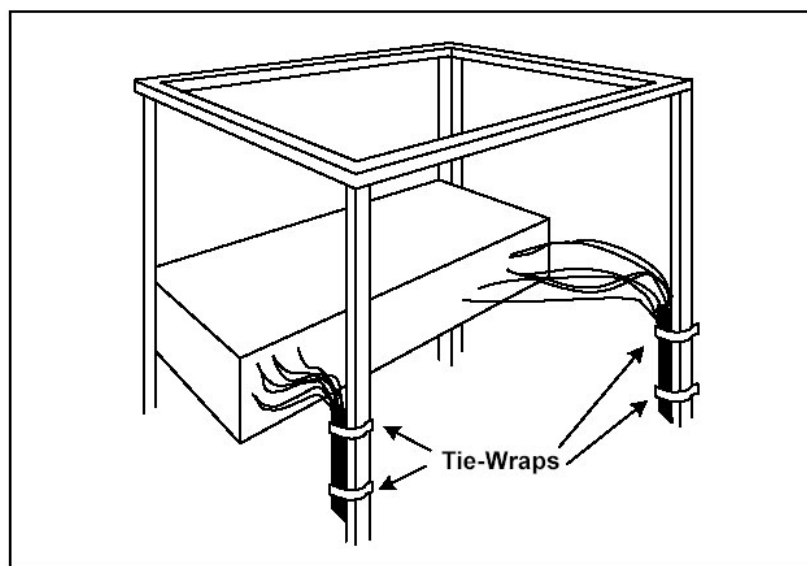

Figure 6. Cabling
2. Provide proper support for each cable during the cabling process. The use of tie-wraps is recommended, as in Figure 6.
Power is supplied to the DA-3100 Mainframe through an internally mounted Power Supply. Power can also be supplied by an internally mounted secondary power supply or from an external power supply through the external power supply connector. External power supplies must be diode isolated from the internal power supplies. An 1N5821 or equivalent type diode may be used for this purpose. See Figure 6 for an illustration of the isolation diode installation. Each Power Supply provides ± 9 -16 volts unregulated DC.